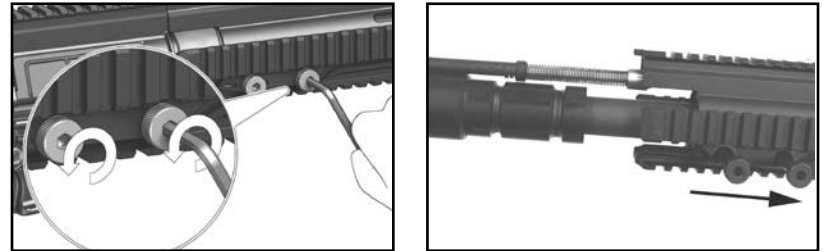

Fig. 45 – Loosening the FFRS screws with hex (Allen) wrench
a. Insert a 5mm hex (Allen) wrench into the retaining screw located on the lower right hand side of the Free Floating Rail System (handguard) and rotate counter clockwise (Fig. 45). Once loosened, drift out the retaining screw from left to right until the retaining screw reaches its limit of lateral travel. Other applicable rail systems and handguards attach using standard machine screws (including SW11 type). Removal and installation of these rail systems and handguards is essentially the same as for Free Floating Rail System.